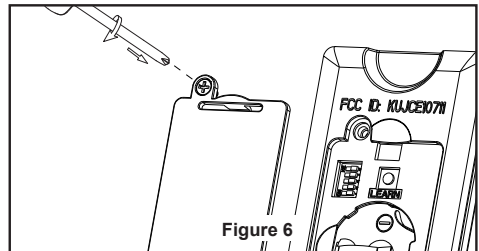

Figure 6
- ☐ 6. Secure the glass to the switch housing assembly by twisting in a clockwise direction. Twist the glass gradually **until it snaps onto the switch housing assembly**. Do not over-tighten. (Figure 6)
6. Replace battery cover on the remote control and secure with the previously removed screw. (Figure 6)